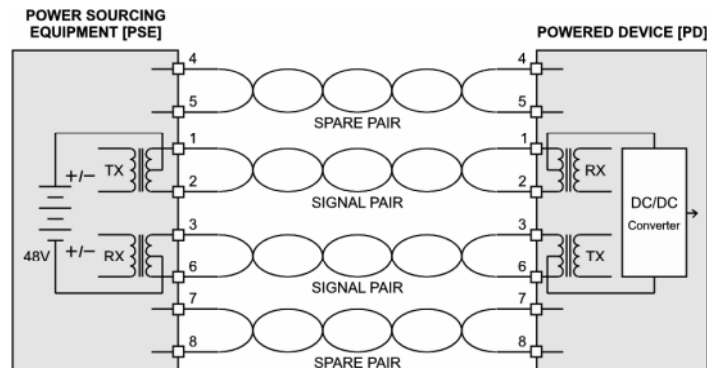

Figure 1 — Alternative A. Signal pairs carry both data and power. Polarity is indeterminate.
The 802.3af standard identifies two types of devices. The Power Sourcing Equipment (PSE) provides the required power just like its name implies. The Powered Device (PD) receives the power. The two are connected via the Ethernet communications cable. Given Ethernet's star topology, the PSE would naturally be assumed to be a port on a hub or switch while the PD would be an end station or node on the network. There are two ways of connecting power as illustrated in Figures 1 and 2. The first method, Alternative A, uses the data lines while the second method, Alternative B, uses the spare pairs. Using both approaches simultaneously is currently not allowed. The standard is being reviewed to determine if, by using both approaches, more power could be transferred to the PD. When using the spare pairs, the
The power being supplied by the PSE is a nominal 48 volts (44 to 57 volts). When using the spare pairs for power, the voltage polarity is defined. When using the data pairs for power, the polarity is undefined. This requires the PD to accept either polarity and still function — because a crossover cable might connect the PSE and the PD. Normally, a straight-through cable is used to connect a switch to an end device (as in Figure 1). The end device is wired as an MDI and the switch is wired as an MDIX. The “X” means that the switch implements an internal crossover function whereby transmitters on the switch connect to receivers on the end device, and receivers on the switch connect to transmitters on the end device. If two MDI-compliant devices need to communicate to one another (an end device to another end device), then a crossover cable is required for the equivalent connection. Modern switches have a feature called Auto-MDIX where the switch port adjusts to either a straight-through or crossover cable and still function with an end device or another switch port. A crossover cable matches data pairs so that pins 1 and 2 on one side connect to 3 and 6 on the other. Likewise, pins 3 and 6 are matched up with 1 and 2. Consequently, the voltage polarity on the data pairs will invert through a cross-over cable. To guard against this reverse-voltage condition, an auto-polarity circuit must be used at the PD so the PD will experience no polarity change. Crossover cables do not affect the spare pairs, but to be safe, it is best to incorporate auto-polarity on the spare pairs as well.